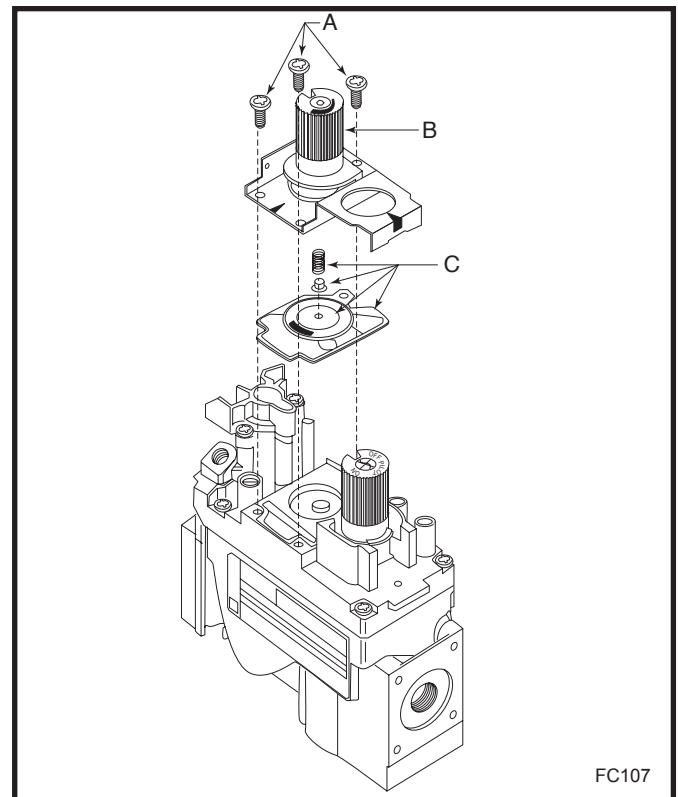

Fig. 48 Remove mounting screws, pressure regulator tower and diaphragm assembly.
9. SIT 820 NOVA Gas Control Valve (Fig. 48)
- a) Using a Torx T20 or slotted screwdriver, remove and save three (3) pressure regulator mounting screws (A), pressure regulator tower (B), and diaphragm (C).
- b) Ensure the rubber gasket (D) is properly positioned and install the new HI/LO pressure regulator to the valve using the new screws (E) supplied with the kit. Tighten the screws securely. (Reference torque: 25 in.lb.)
- c) Install the enclosed identification label (F) to the valve body where it can be easily seen.